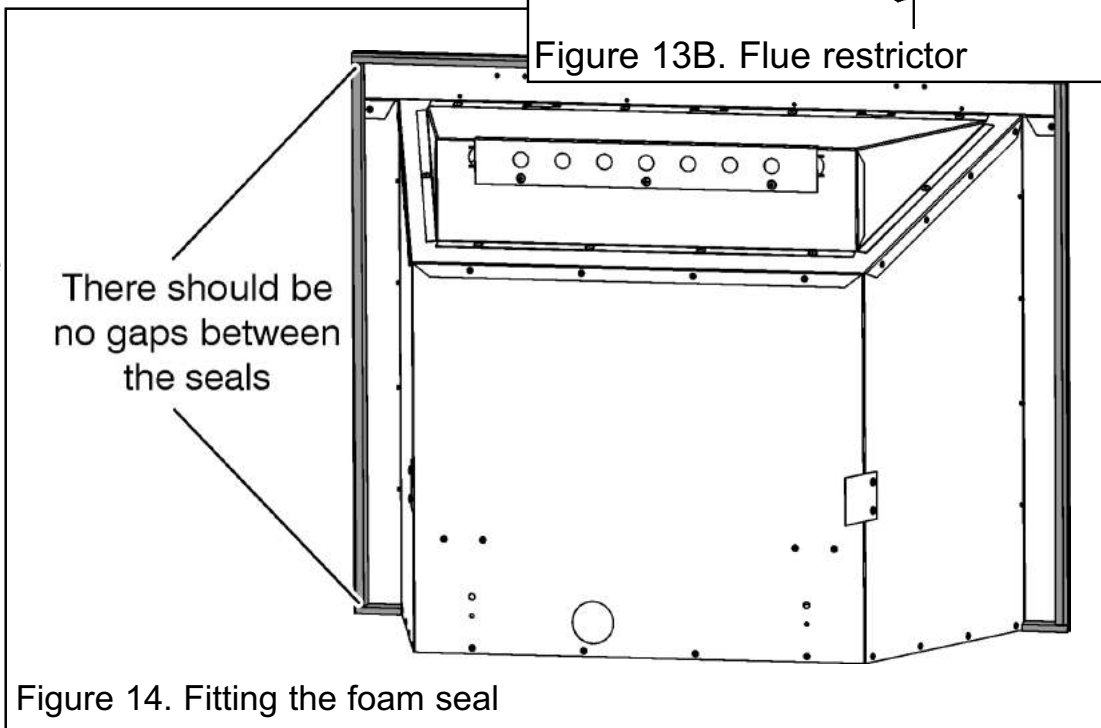

Figure 14. Fitting the foam seal
6. There is a length of self adhesive foam seal supplied with the fire. This will need to be fitted to the outer rear edges of the side and top flanges of the convector box. Ensure that there is no gap between the foam seals where they meet (See figure 14). It is important that the bottom of the side flanges are sealed. Where the wall surface is uneven an additional length of foam seal is supplied and can be placed on top of the first layer.